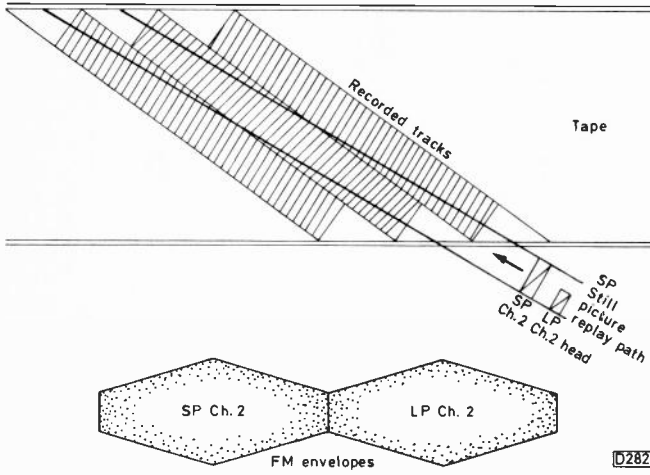

Fig. 3: SP still playback.
From the system block diagram shown in Fig. 3 you can see that most of the circuitry, including the display driver, is contained in the M491, a 40-pin NMOS LSI chip. This i.c. provides voltage-synthesis tuning for sixteen programmes, in a similar manner to the System 40 arrangement, with remote control of channel selection, volume and on/off (standby).
In the SP still picture mode (B) the thicker Ch. 2 SP head is used in conjunction with the Ch. 2 LP head. The result is a still field with the same track read alternately by these two heads. This is illustrated in Fig. 3, where the advantage of using the thicker Ch. 2 SP head to cover the Ch. 2 track without missing any f.m. video signal can be seen. With the tape stationary the heads scan the tape at a more acute angle than when the tape is moving during record. The replay path is thus longer, covering at least some portion of three adjacent tracks, though the head azimuth matches only the central track. The adjacent tracks are ignored. Since it's thinner, the Ch. 2 LP head doesn't cover so much track. It can lose out at the very top and introduce noise if the tracking is not spot on. For this reason the machine's still picture quality is perfectly noise free only with its own recordings and is not necessarily clean with a library tape. This is true of most machines with still-picture and slow-motion modes.